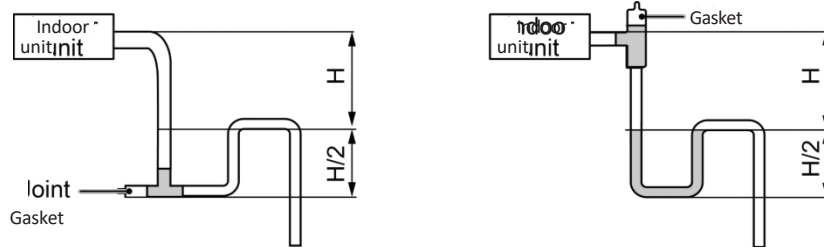

Fig. 4.12
- 6 Install the trap as shown in Fig. 4.12.